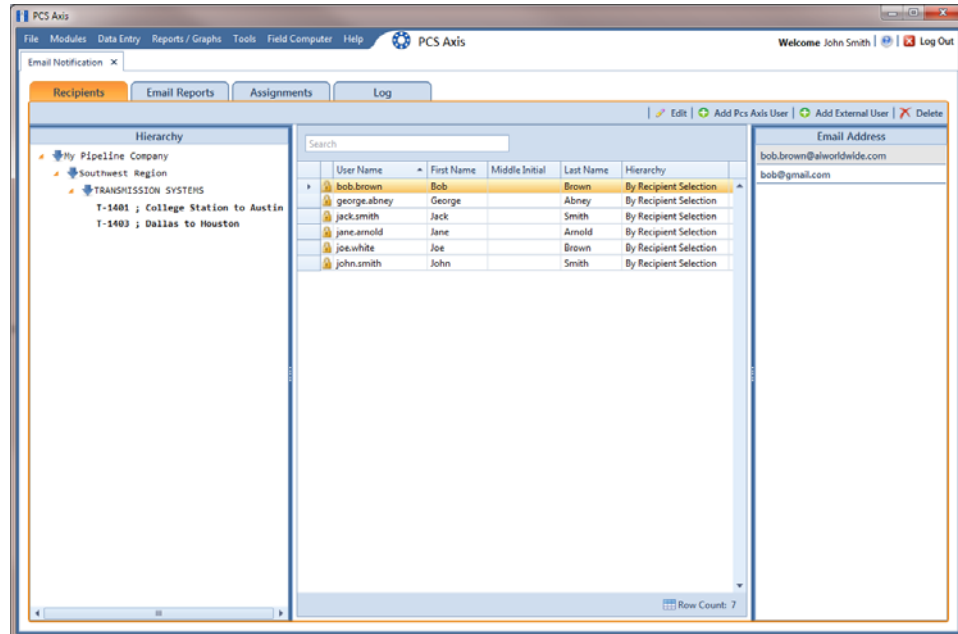

Figure 11-1. Recipients / Add PCS Axis User
- 3 Select a user name in the center panel (Figure 11-1, page 453).